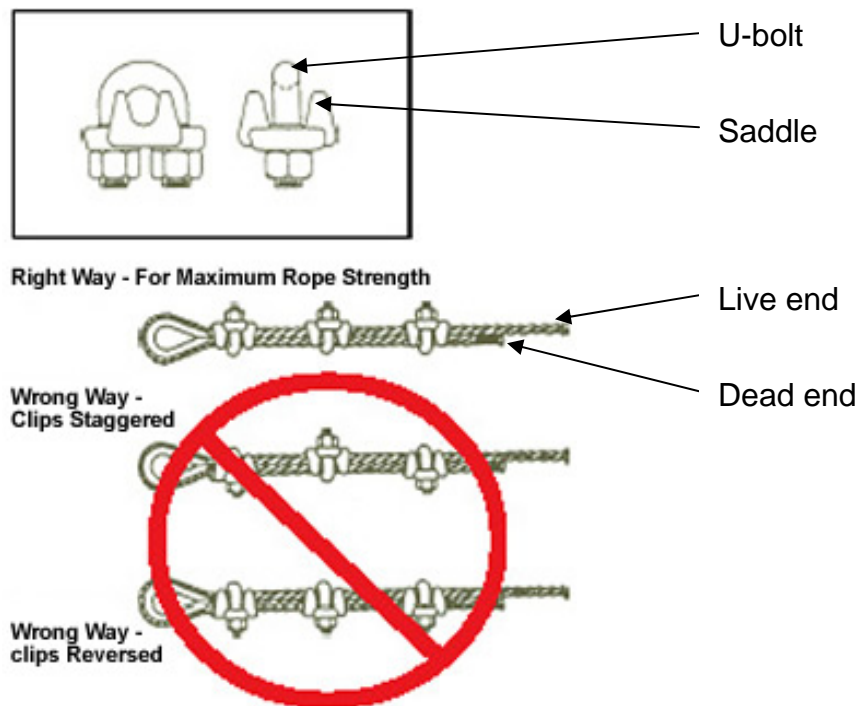

Figure 5
Attach the Ø5/16" tower guy cable (without crimped eye) to the eye of the turnbuckle furthest from the center foundation using an open 1/2" thimble. Squeeze the thimble closed before proceeding. Secure cables into position with three (3) 5/16" saddle clamps. Refer to saddle clamp installation procedure in Figure 5, and make the dead end approximately 30 inches long.
Attach the remaining Ø3/16" guy cables (not attached to couplers) to the remaining turnbuckle eyes, using open 3/8" thimbles; squeeze thimbles closed before proceeding. Secure with three (3) 3/16" saddle clamps per guy cable, installing the shortest closest to the tower base first and working outward with successively longer cables. See drawings D1 and D6 in the manual appendix. Refer to the "Saddle Clamp Installation Procedure" and the illustration in Figure 5 below. The cable "dead end" should be approximately 30 inches at each turnbuckle.
1. Locate the first saddle clamp as near as possible to the thimble with the U-bolt over the dead end and the live end in the clip saddle. See Figure 5 below.
Attach the four (4) guy cables from the tower base pipe coupler to the left-, right-, and down-side foundations and the gin pole end fitting. Use an open 3/8" thimble through the eye of each applicable turnbuckle; squeeze the thimbles closed before proceeding. Pull guy cables taut then slack off approximately six inches before securing with three (3) 3/16" saddle clamps. Refer to the "Saddle Clamp Installation Procedure" and the illustration in Figure 5. As guy cables will be readjusted later during the tuning process, do not risk deforming cables by fully tightening cable clamps. Adjust all the guy cables so that the tower section is plumb.
Attach the gin pole guy cables to their anchors at the left- and right-side foundations. Use open 5/16" thimbles and three 3/16" saddle clamps at each location. Refer to the "Saddle Clamp Installation Procedure" and the illustration in Figure 5. Use a leveling tool to plumb the gin pole with tension adjusted so there are about four inches of sag in each cable.
Attach the bottommost tower coupler's attached guy cables to the lowest available turnbuckles at the left- and right-side foundations. Place an open 5/16" thimble through the eye of the turnbuckle. After placing all thimbles in this manner, squeeze them closed before installing cables and saddle clamps. Pull guy cables taut then slack off approximately six inches before securing with three 3/16" saddle clamps. Refer to the "Saddle Clamp Installation Procedure" and the illustration in Figure 5. As guy cables will be readjusted later during the tuning process, do not risk deforming cables by fully tightening cable clamps.
With the first two (2) tower sections level, attach the second $\text{Ø}3/16''$ guy cable between the gin pole end fitting and the open hole in the second coupler guy cable eye, using a $5/16''$ thimble and three (3) $3/16''$ saddle clamps. Pull the guy cable tight. *Note: There will be excess cable at this time, which will be trimmed after the tower has been adjusted.* Refer to the "Saddle Clamp Installation Procedure" and the illustration in Figure 5. It will be easier to tighten saddle clamps if the guy cable is led through the coupler from above and fed back on the lower side nearest the tower base (see Figure 7 below).